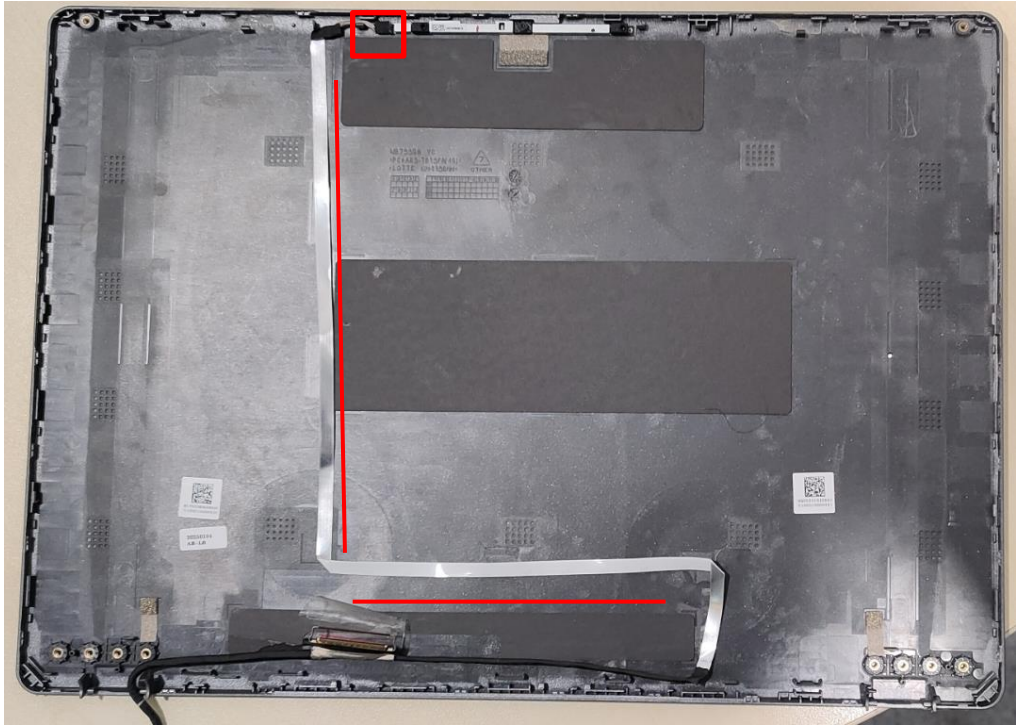

Figure 3-52. camera
1. Disconnect camera connect and remove EDP cable in Figure 3-52.